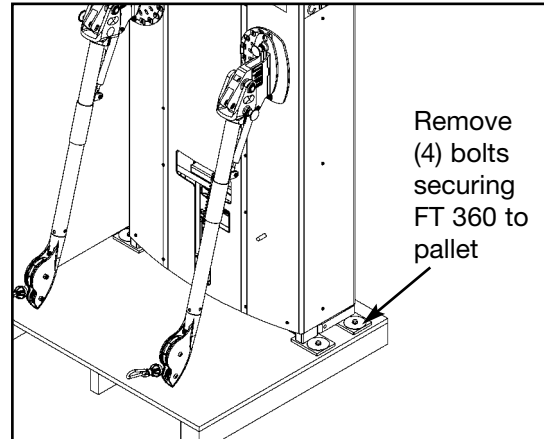

Figure 1
- D.** Verify contents of the carton. See Figures 1 and 2.
**1. Remove FT 360 from pallet** (see steps 1A - 1C and Figure 1).
- A.** Remove the four bolts securing the FT 360 to the pallet. See Figure 1.